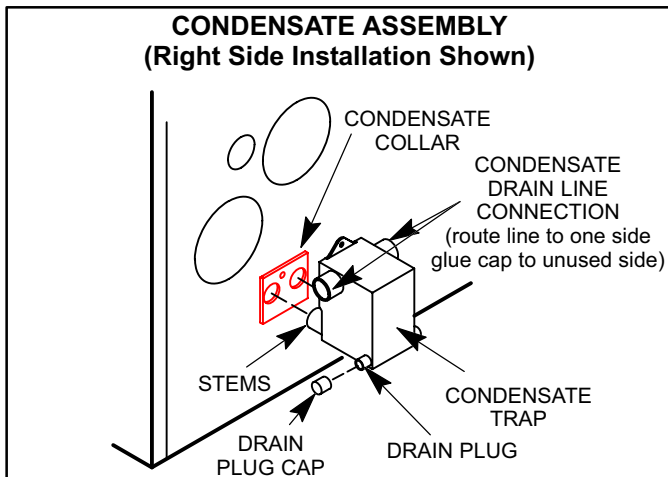

FIGURE 46
- 2 - Apply glue to condensate trap stems and insert trap into holes provided in condensate collar. Make sure condensate trap is completely sealed to avoid any leaks. Use the provided 1/2" screw to secure the top of the condensate trap to the side of the unit. See figure 46.